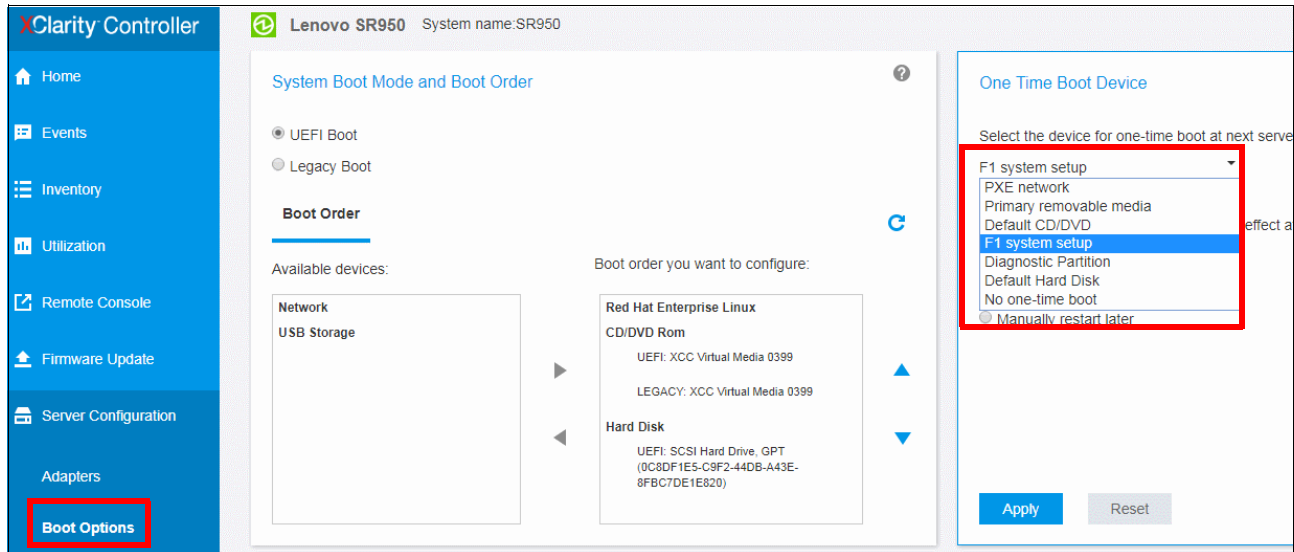

Figure 7-63 Boot options
3. If you wish to boot to a certain device or setup such as CD/DVD or F1 setup, use the **Server Configuration** → **Boot Options** page, as shown in Figure 7-63 on page 270.